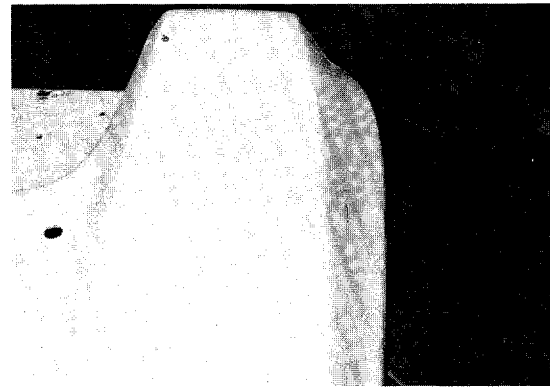

Figure 14-19
14. If surface appears rough, it may help to put a few drops of water over the area and sand again with 320 grit coated sandpaper. This should prevent scratching while sanding. Wipe dry and clean and lightly recoat the surface with spray paint (Figure 14-19).